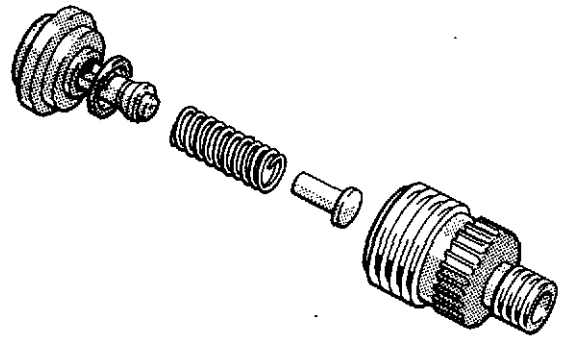

Fig. 12 Delivery valve assembly
- 16 Unscrew and remove each of the previously slackened delivery valve holders, complete with spring and volume reducing peg (fig. 12). Place each assembly in its respective container along with the plunger assembly.